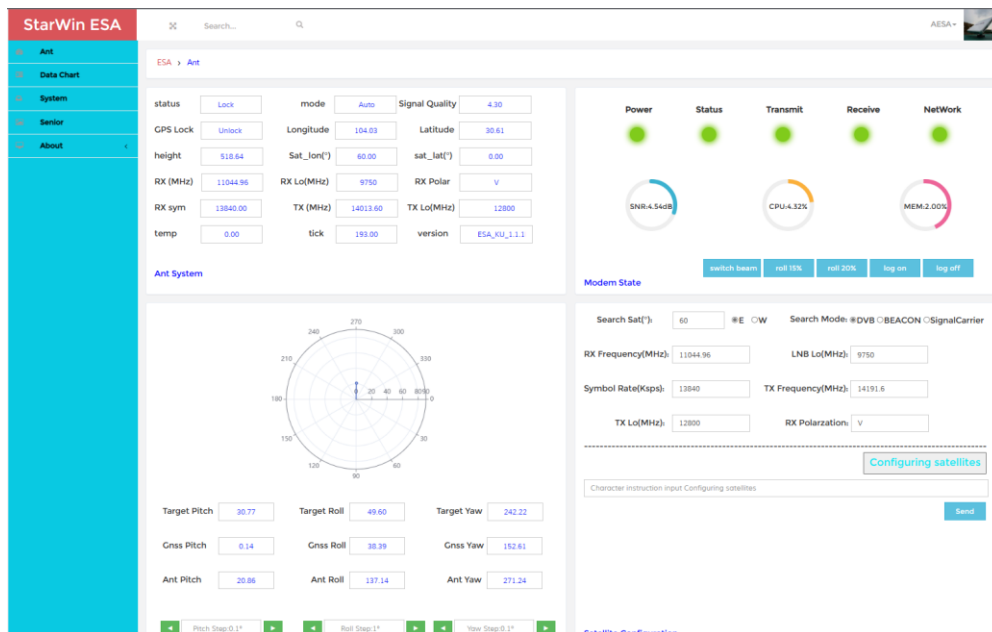

Figure 8-2 Main Interface
- ② Click on the Signin button (no account password required) to access the main screen, as shown in Figure 8-2.